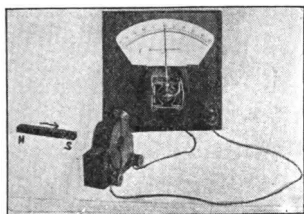

FIG. 218.—CURRENT INDUCED BY MEANS OF A PERMANENT MAGNET
**243. Electric Current Produced in a Wire by Moving a Coil in a Magnetic Field.** If a coil of wire (Fig. 218), with its two ends connected to a milliammeter,1 is moved up to the north pole of a permanent magnet, a current will flow through the coil and will be indicated by the swing of the milliammeter needle. The current ceases to flow when the motion stops. If